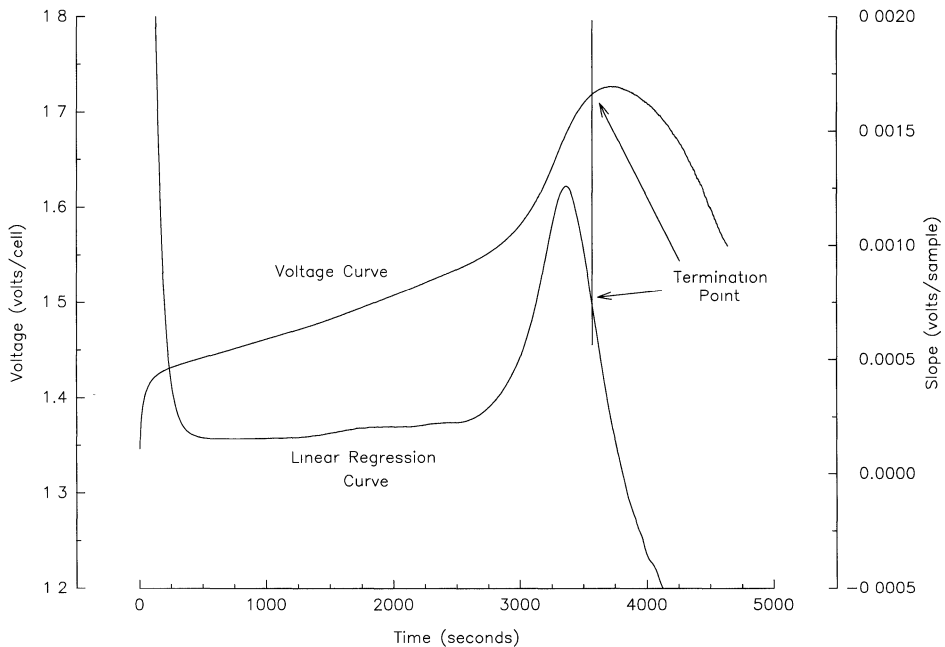

Figure 4: Voltage and Slope Curves with Termination Point
The first derivative will change its slope sharply in response to small perturbations in the cell voltage curve. This sensitivity to the cell voltage helps monitor changes in the voltages of individual cells. The first derivative, shown in Figure 4, will peak just before the actual peak in the cell voltage. The QuickSaverII controller can then accurately terminate charge before the battery begins overcharging.
- 1) The primary method monitors the linear regression slope of the battery voltage as outlined on Page 9. The charge is terminated and a maintenance mode begins when the slope reaches a derived cutoff threshold, shown on Figure 4. The derived threshold is continuously calculated from the start of the charge routine.